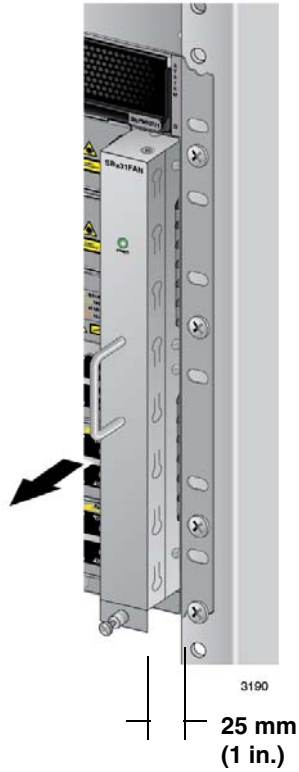

Figure 193. Withdrawing the AT-SBxFAN12 Fan Module 25 mm (1 in.) from the Chassis
7. Slowly pull the module out 25 mm (1 in.). Refer to Figure 193.